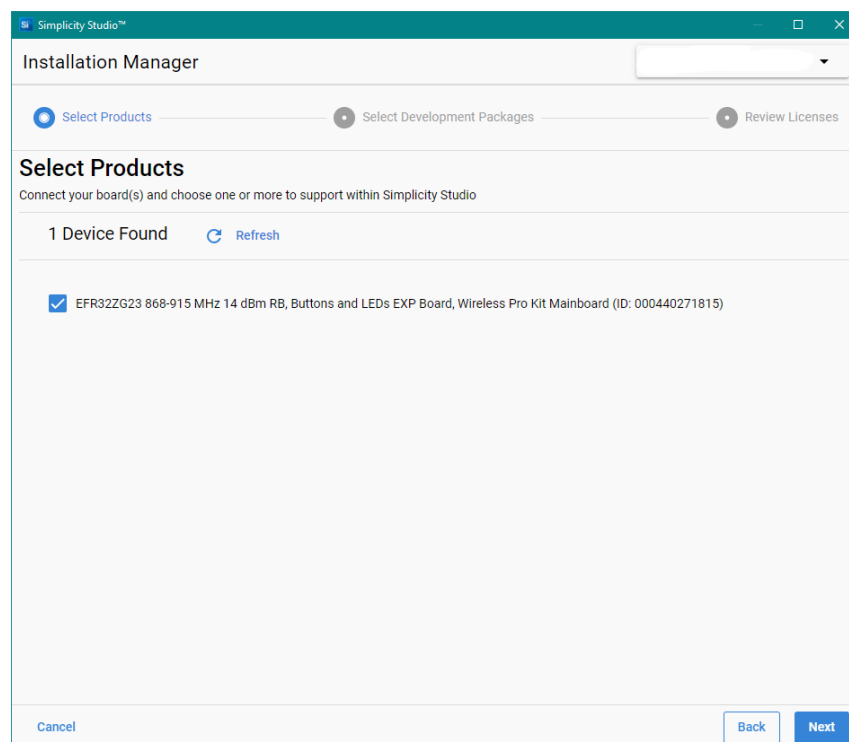

Figure 5: Select Devices to Install the Needed Software Packages
- 7) After some additional items are installed, you are offered the option of installing by device or installing by product group. This guide will be using the '*Install by connecting device(s)*' option, which will install the relevant software based on the connected hardware (if you do not have any hardware connected, you can browse for possible hardware kits, and still get the same easy install experience). See Figure 5. Select your products and click '*Next*'.